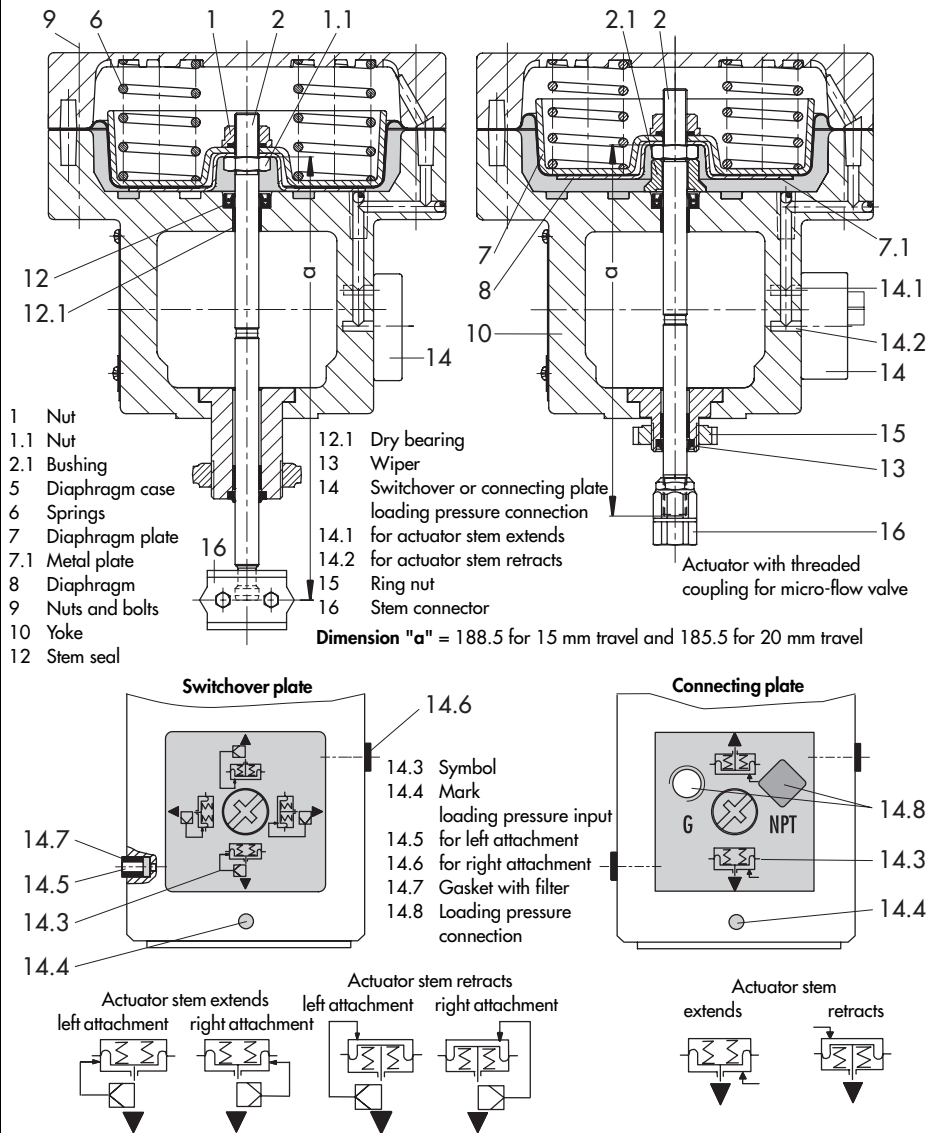

Fig. 4 · Type 3277-5 Actuator (120 cm²)
Type 3277-5 Actuator (Fig. 4)
- ▶ Turn the switchover plate to align the symbol (14.3) for the appropriate fail-safe action with the mark (14.4). See Fig. 4, bottom left. The operating direction (>>) or (<>) of the positioner determines whether the left or right attachment is to be used.
- ▶ Turn the connecting plate to align the symbol (14.3) for the appropriate fail-safe action "actuator stem extends" or "actuator stem retracts" with the mark (14.4). See Fig. 4, bottom right.
6. Turn the top diaphragm case (5) upside down and place in to it the actuator stem with diaphragm plate, diaphragm and metal plate (7.1 in Fig. 4), if one exists.
7. Insert the springs (6) and slide the yoke with the lower diaphragm case over the actuator stem.
8. Screw diaphragm cases back together. Remove vent plug (3) on Type 3277 Actuator.